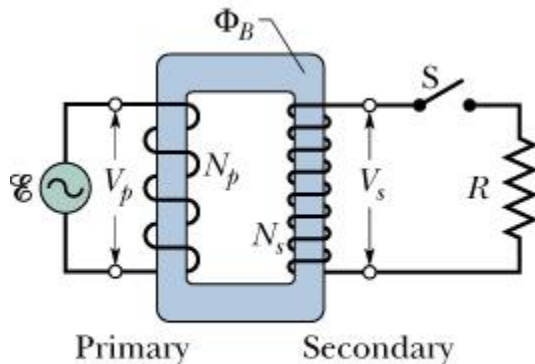

Fig. 1. A schematics of an ideal transformer.  $N_p$  and  $N_s$  are numbers of turns in the primary and secondary coils, respectively.
An iron-core transformer, Fig. 1, is an important device used in alternating current (AC) circuits, which involve these two discoveries. A transformer allows efficiently increase or decrease the line voltage. In its simplest form, the AC transformer consists of two coils of wire wound up around a core of iron as illustrated in Fig. 1.